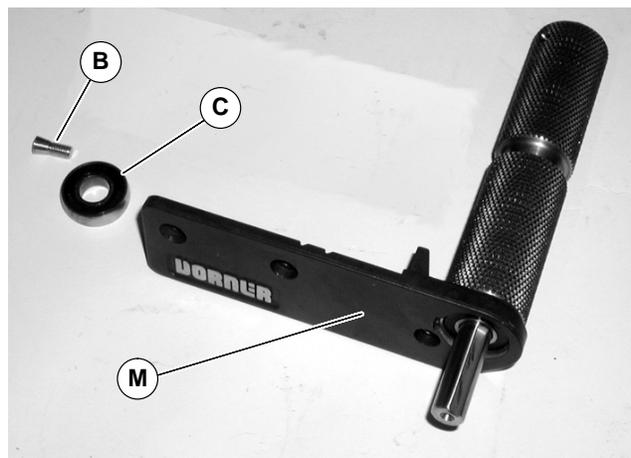

Figure 12
1. Locate components (Figure 12).